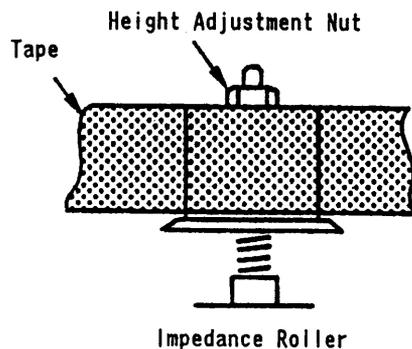

Fig. 2-4.
6. If any curling or creasing is noted, adjust tape guide roller and impedance roller first. In this case, adjust the impedance roller in both PLAY and REV modes so that tape runs as shown in Fig.2-4.